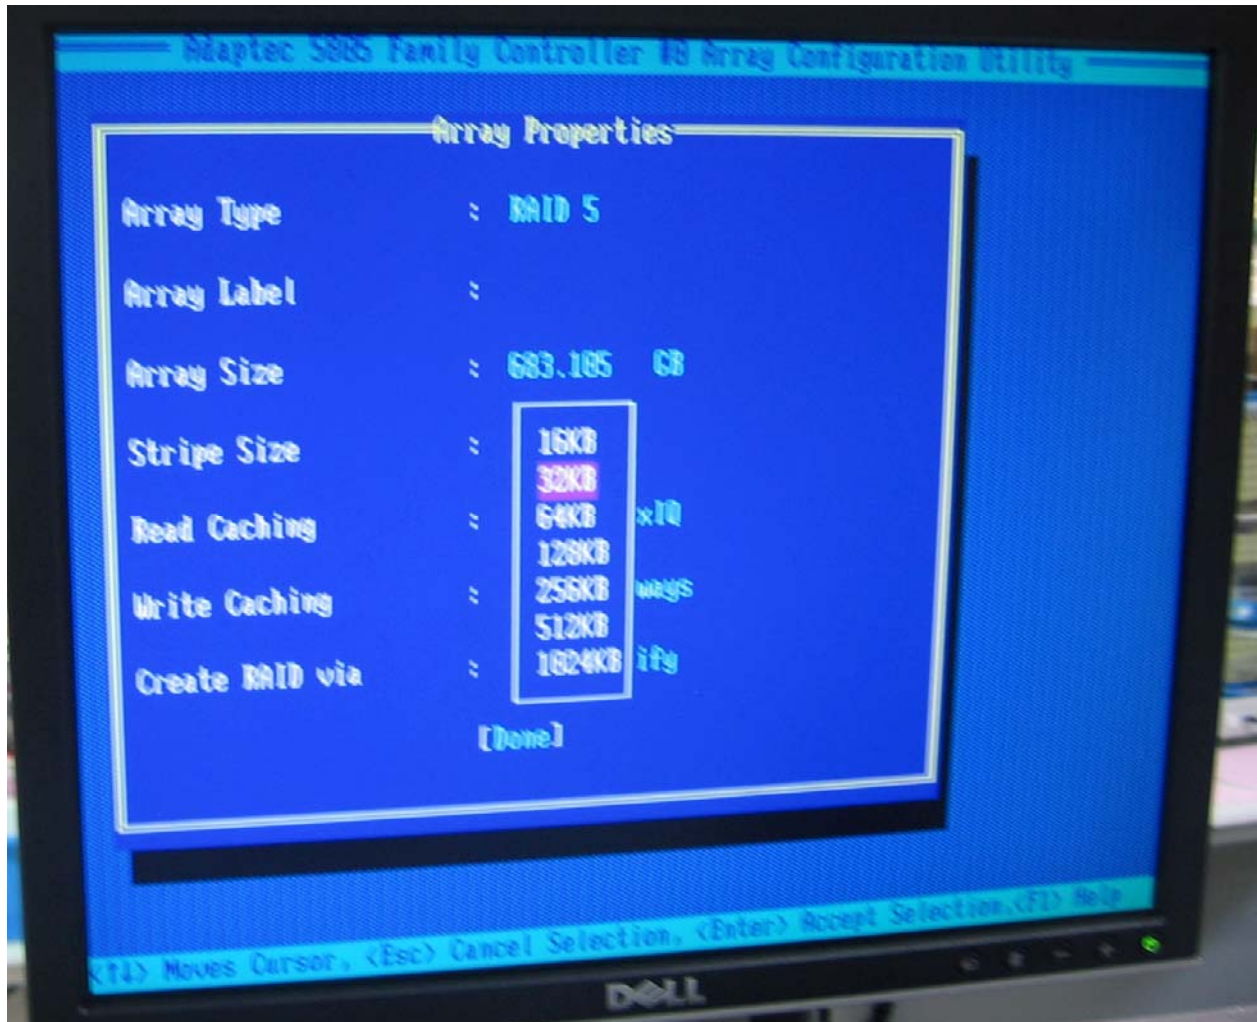

Figure 7-11 Stripe Size
13. In **Stripe Size** scroll down and select (25 KB). (Figure 7.11).